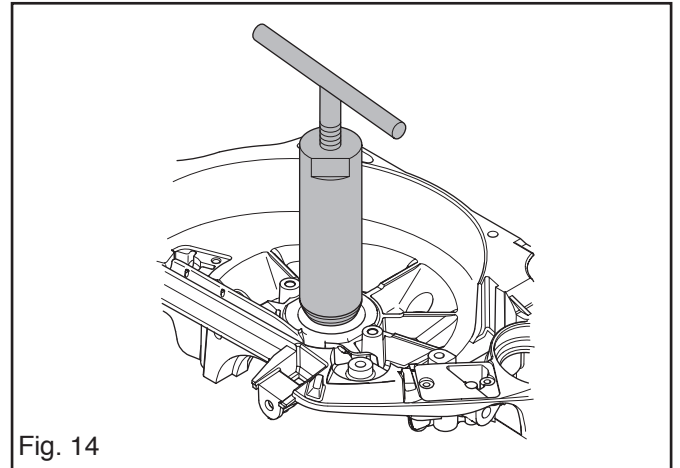

Fig. 14
2. Screw the relevant dismantling tool 504 91 40-01 into the seal and pull it out. See fig. 14.